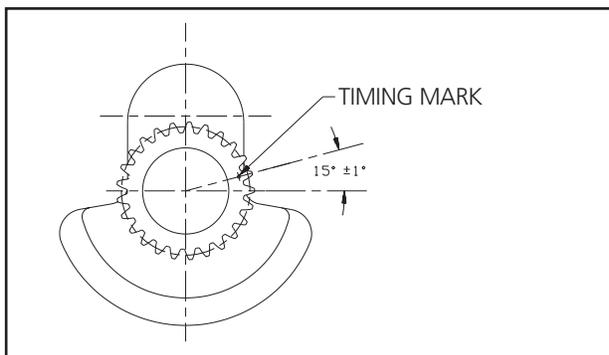

Figure 11.10 — Timing Mark on Crankshaft Gear
4. Rotate the crankshaft until the timing mark (Figure 11.10) is toward the cam gear side of the crankcase.